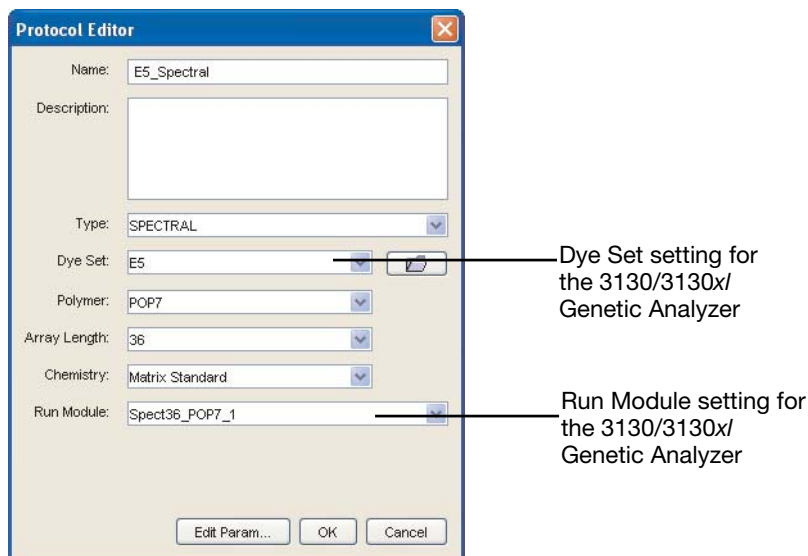

Figure 3 A spectral protocol in Protocol Manager, using the E5 dye set and the Spect36_POP7_1 run module on the 3130/3130xl Genetic Analyzer
3. Enter a name for your spectral calibration in the Name field (*E5_Spectral* in the example shown in Figure 3 on page 5). Use Table 1 below to make the appropriate selection for your instrument from each field listed.